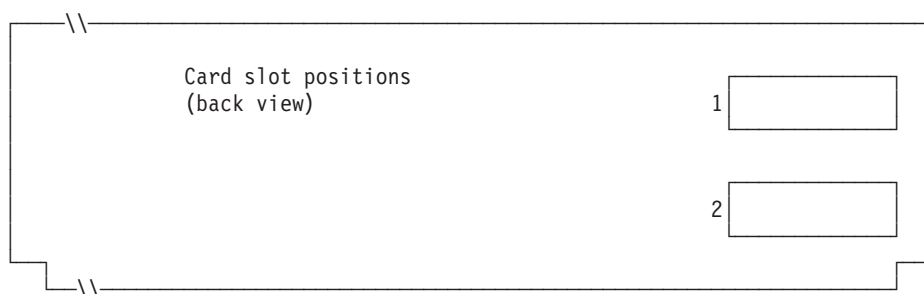

Figure 113. Rear of 4694-2x6 Controller/Terminal
4. Mark an X on Figure 113 in each card slot that has a Dual Asynchronous Adapter card installed **for use by terminal applications**. Do not mark an X if the card is to be used by applications other than terminal applications use .